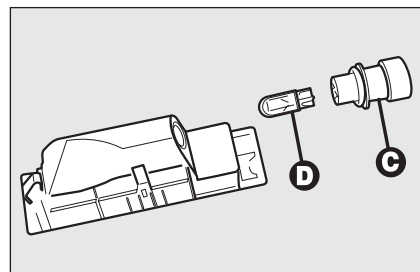

fig. 37
- remove the bulb holder **C-fig. 37** by turning it slightly and replace the snap-fitted bulb **D**.